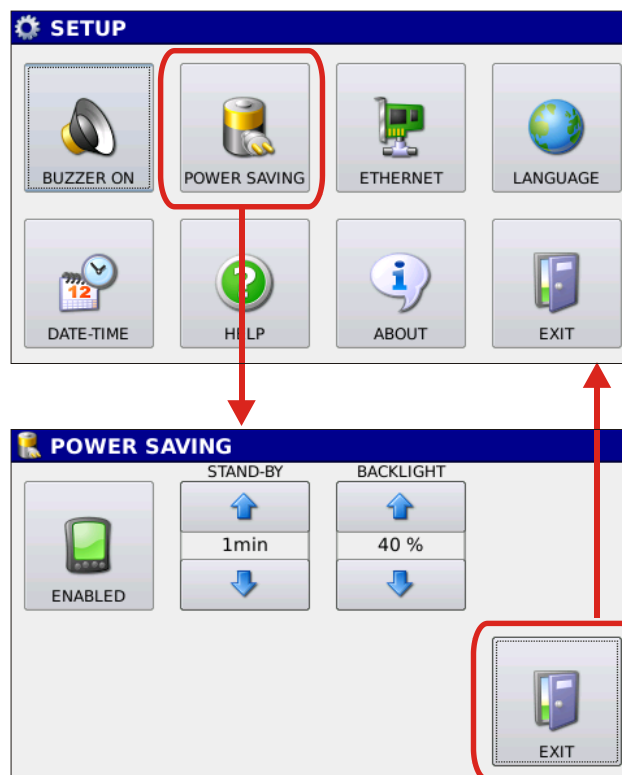

Fig. 6.3 Power Saving Management Window
6.2  **Power saving configuration.** Press the POWER SAVING button to access the window for the management of the brightness level of the screen and the Stand-by time Figure 6.3